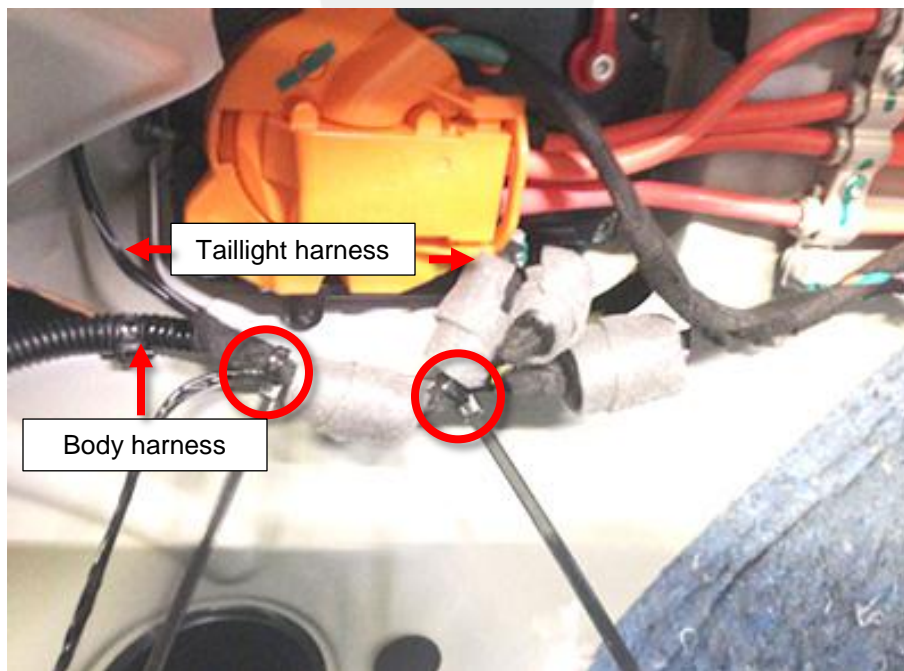

Figure 13
18. Install 2 cable ties as shown to secure the taillight harness and body harness together (Figure 13). Remove any excess tie.